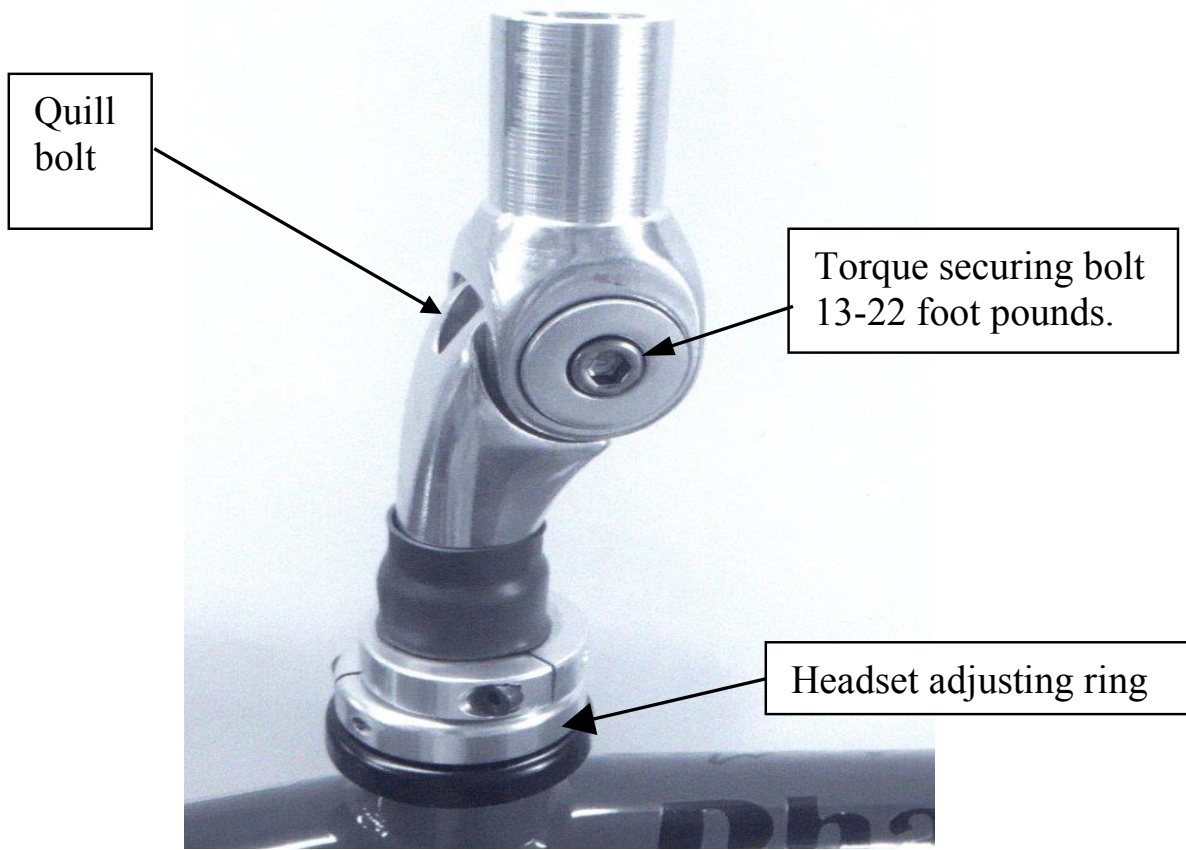

FIG. 2-2
- C) Verify/place the tilt steering mechanism in a vertical position and tighten the securing bolt to 13-22 foot pounds. (See Fig. 2-2).
- E) At this point you can adjust the handlebars forward or rearward using the tilt mechanism, then repeat steps A) thru D) above as needed (see Fig. 2-2).
To adjust tension on the headset bearings, loosen the adjusting ring locking bolt (see Fig. 2.2), adjust the ring as required for proper tension, then tighten the locking bolt. The adjusting ring is the lowest ring.
The tilt mechanism lever securing nut needs to be kept tight, to a torque of 13 to 22 in-lbs (See Fig. 2-2). Torque this nut at least once a year to ensure it is tight.